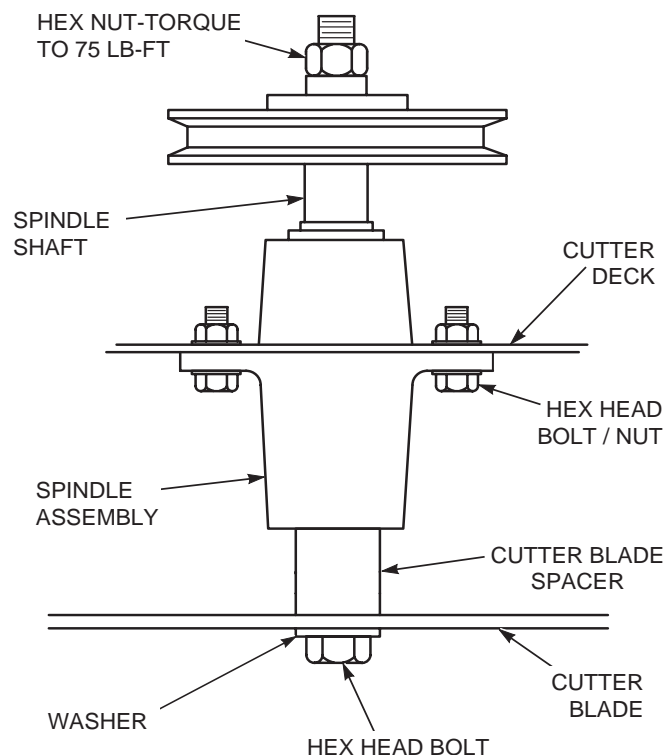

Figure 7-5. Blade Replacement
3. Secure the cutter blades to prevent them from rotating, (use the optional Blade Buddy tool P/N 9212, to assist in securing the cutter blades), remove the nut from the blade attaching bolt. Remove the cutter blade, bolt and spacer from the spindle shaft. See Figure 7-5.
6. Install the hex nut to the blade bolt at the top of the cutter spindle. Secure the blades from rotating and torque to 75 lb-ft. See Figure 7-5.